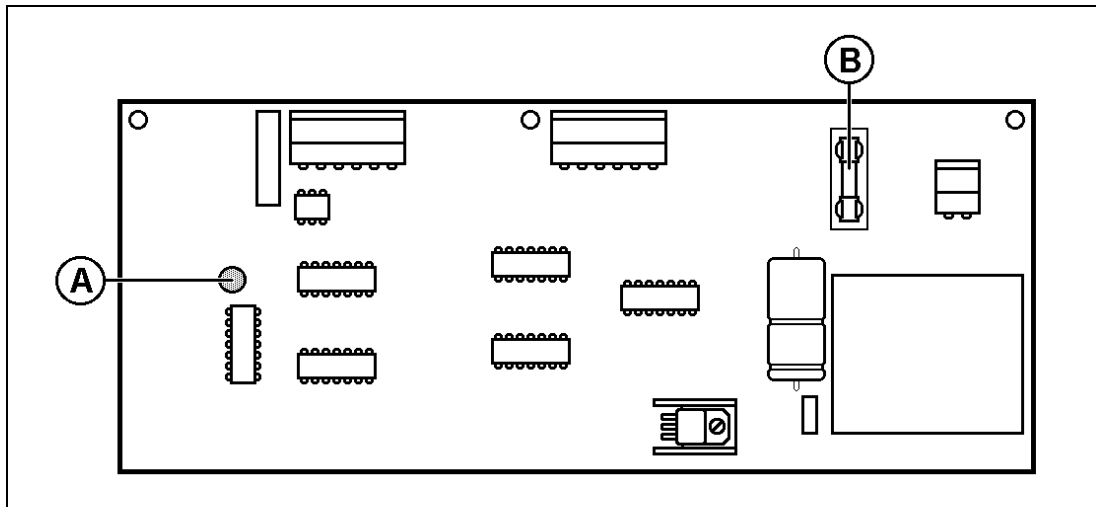
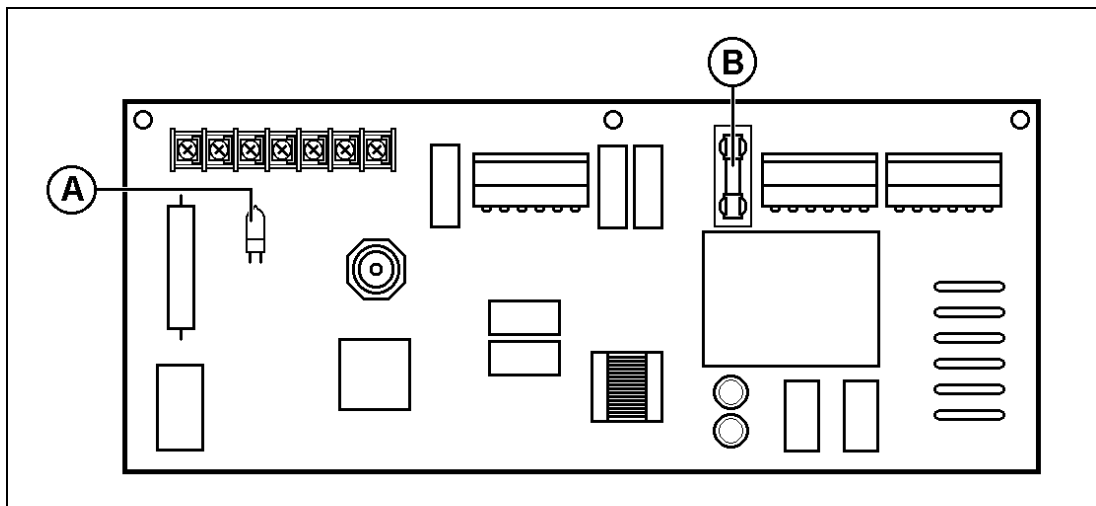
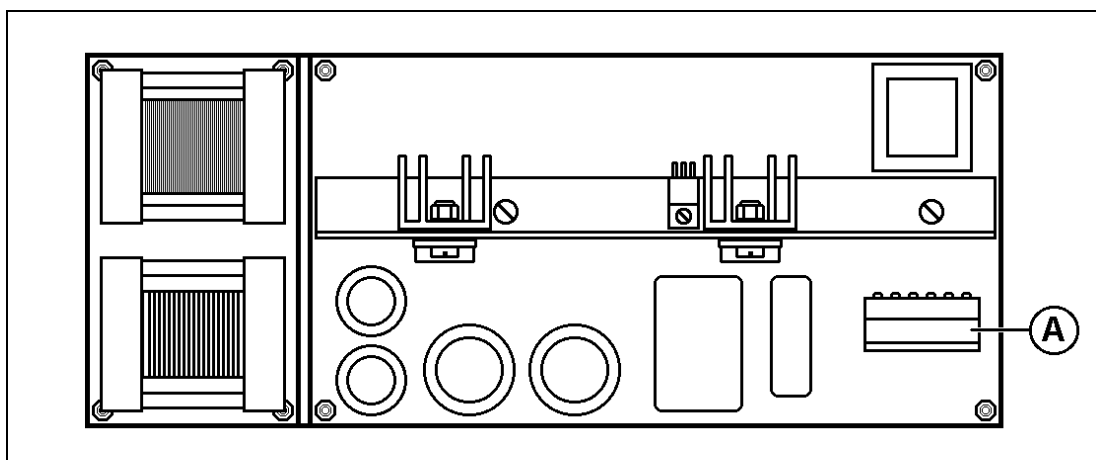

FIG 7 : TIMER PCB
FIG 8 : AUXILIARY PCB
FIG 9 : HIGH VOLTAGE PCB
The Auxiliary PCB of power supply box is equipped with one small security Neon tube (See (A) Fig 8) which indicate presence of high voltage in the power supply box. Never touch internal part of the power supply box when this Neon is light on.
To help you in you during maintenance operations, the three drawings give in **Fig 7**, **Fig 8** and **Fig 9** show respectively the three PCB of the F30 power supply box : **Timer PCB**, **Auxiliary PCB** and **High Voltage PCB**.
2) Control the Timer PCB (see **Fig 7**).
The display LED of the Timer PCB (see **(A) Fig 7**) must blink at the rythme of the flash of the F30. If the LED does not blink.
b) Check the fuse (see **(B) Fig 7**) of the Timer PCB. If the fuse is broken, change the fuse of the Timer PCB.
3) If the Timer PCB is OK, check the fuse (see **(B) Fig 8**) of the Auxiliary PCB.
I) We have a problem with the High Voltage PCB (see **Fig 9**).
I) Unplug the six points terminal (see **(A) Fig 9**) of the High Voltage PCB.
IV) Verify that the F30 flash weakly and that the small security Neon tube (see **(A) Fig 8**) of the Auxiliary PCB is light on.